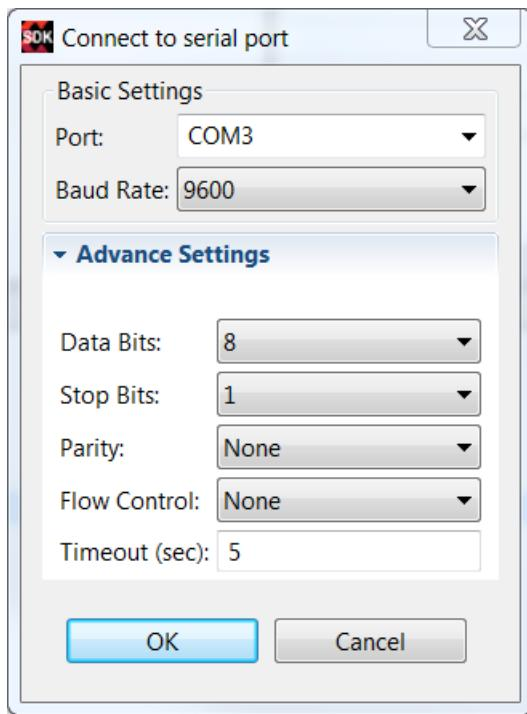

Figure 147: Terminal Settings
- a. Use the settings shown in Figure 147 for the KC705 board and click **OK**.